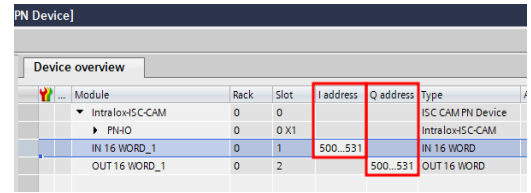

Figure 18: Set I and Q Address of ISC CAM device
48. Double click or highlight the entire "I address" field, type 500 and press enter. The value in the field for ISC CAM shall change to 500...531, Figure 18.